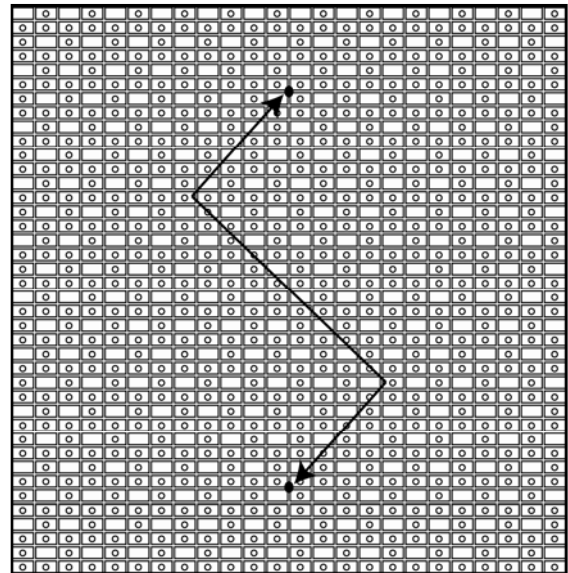

Figure 5: Module Face
2. With a $1/8$ " hex head driver, turn the top and bottom latch releases approximately $1/2$ turn counter-clockwise. Refer to **Figure 5** for the approximate location of the holes.